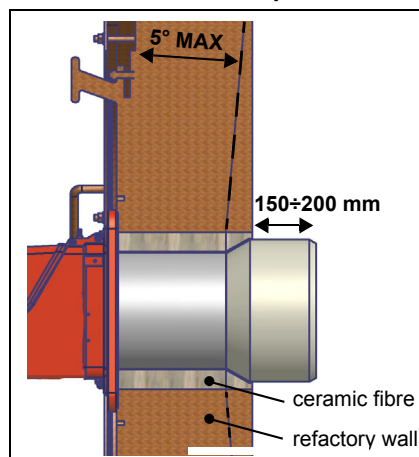
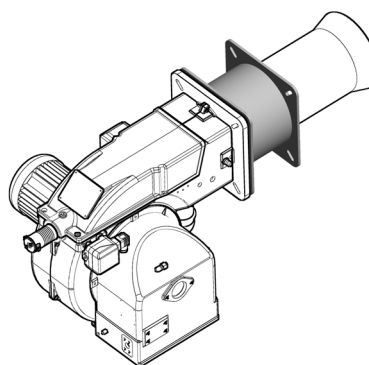

Fig. 3
Fig. 4
The burners described in this manual have been tested with combustion chambers that comply with EN676 regulation and whose dimensions are described in the diagram. In case the burner must be coupled with boilers with a combustion chamber smaller in diameter or shorter than those described in the diagram, please contact the supplier, to verify that a correct matching is possible, with respect of the application involved. To correctly match the burner to the boiler verify the type of the blast tube. Verify the necessary input and the pressure in combustion chamber are included in the burner performance curve; otherwise the choice of the burner must be revised consulting the burner manufacturer. To choose the blast tube length consider the following rule, even if it differs from the instructions of the boiler manufacturer: Cast-iron boilers, three pass flue boilers (with the first pass in the rear part): the blast tube must protrude about 150÷200 mm into the combustion chamber (Fig. 3). The length of the blast tubes does not always allow this requirement to be met, and thus it may be necessary to use a suitably-sized spacer to move the burner backwards (Fig. 4).
1-b) in case of flanged joints: place a gasket (no. 1A..1E - Fig. 4) between the elements;
**ATTENTION:** once the gas train is mounted according to the diagram on Fig. 4, the gas proving test must be performed, according to the procedure set by the laws in force.